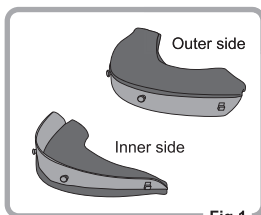

Fig.1
1. Check Fig.1 and make sure the side (inner side or outer side).